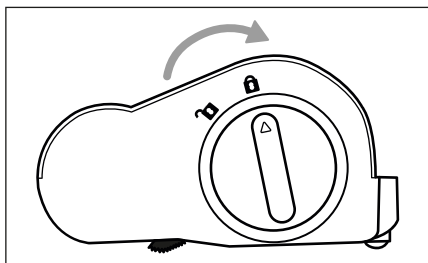

Fig. 25
- 5) Insert the rotary brush **19** into the floor brush **20** and turn the rotary brush release **18** in the direction of the symbol **18** (close) (see Fig. 25).